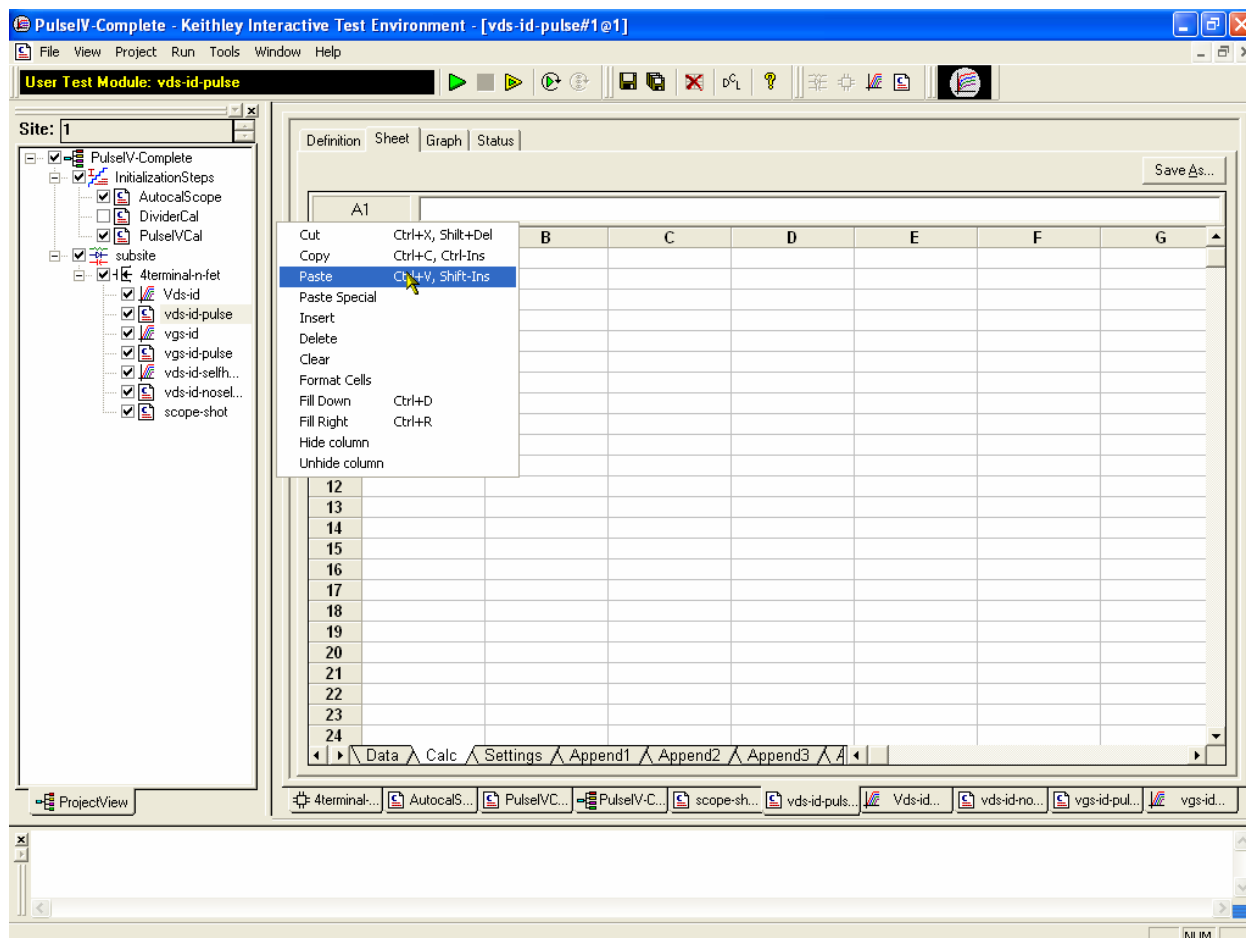

Figure 20. Paste data into pulse test Calc worksheet.
10. Paste DC data into pulse Calc worksheet by right-clicking and choosing Paste, as shown in Figure 20, or use Ctrl-V. If there is previous data in the Calc worksheet, it is not necessary to delete it. Now all comparison DC and pulse data is located in the same test, but we need to define the graph to display the DC data located in the Calc worksheet.